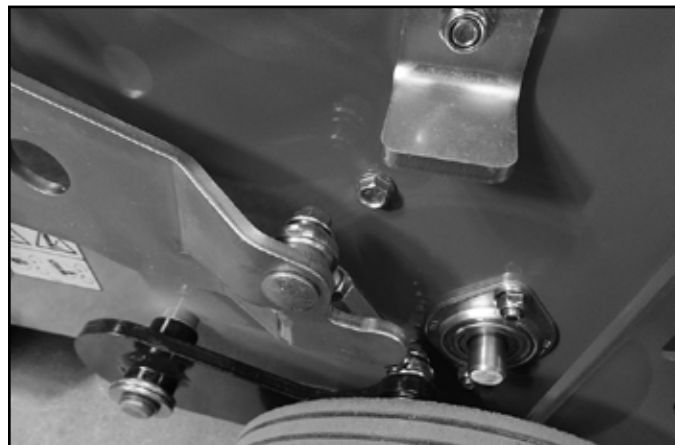

Fig. 083
14. Install the nut and bolt that connects the wheel arm assembly to the lift link (Fig. 083).